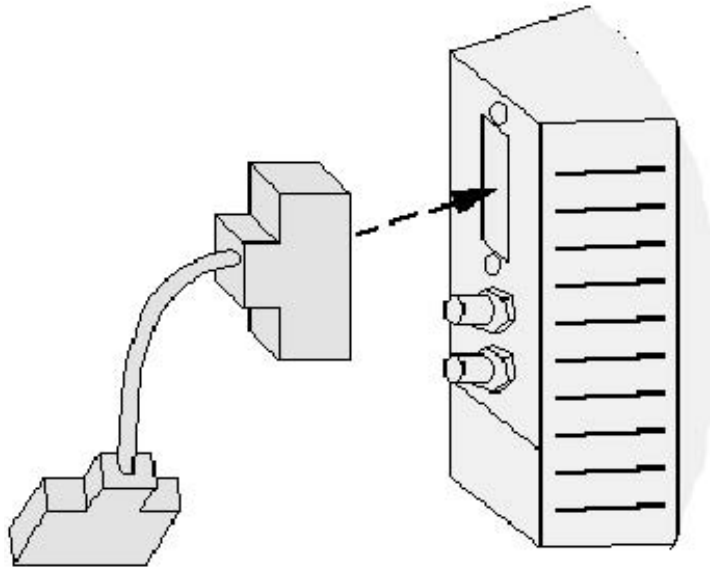

Figure 1-2 Analog DASM Detail
- 5.) Refer to Figure 1-2. Attach cable 46-296980G1 to the front of the DASM.